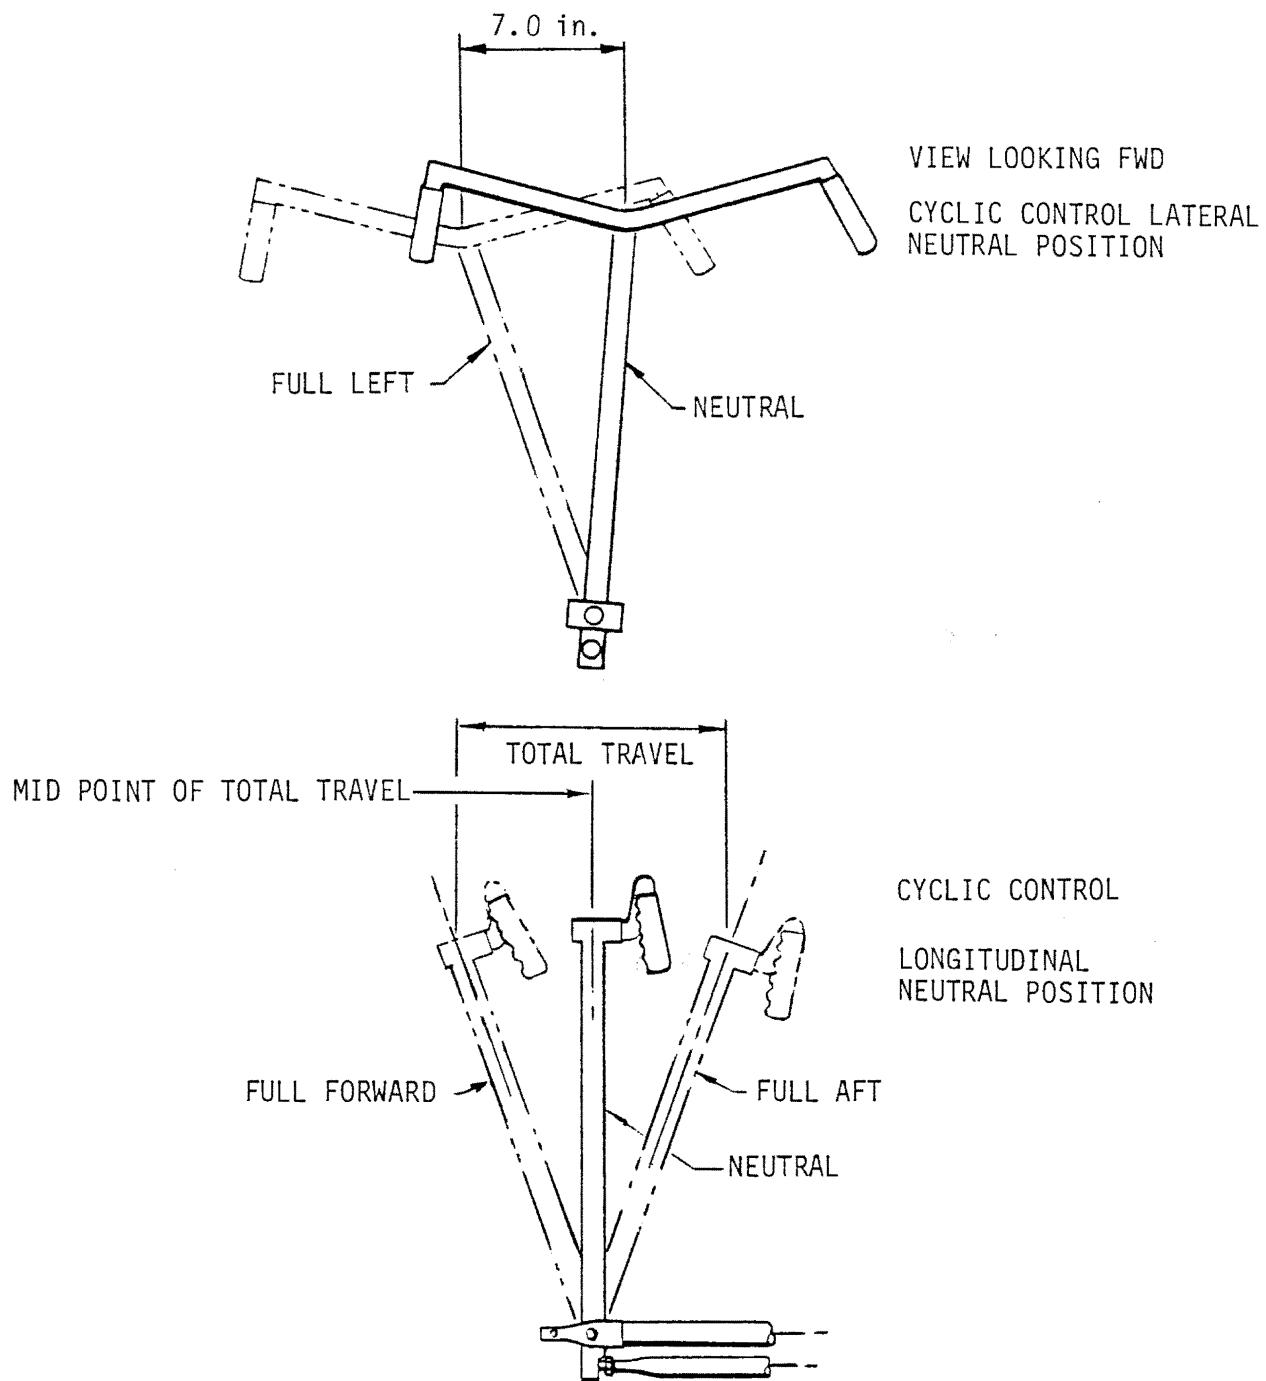

FIGURE 10-1 CYCLIC CONTROL STICK NEUTRAL POSITION
- a) Refer to Figure 10-1. Place cyclic control in neutral position. Cyclic neutral position is 7.0 inches to the right of full-left travel and at mid-point of total fore and aft travel or use MT559-1 rigging blocks. Place collective control full down.